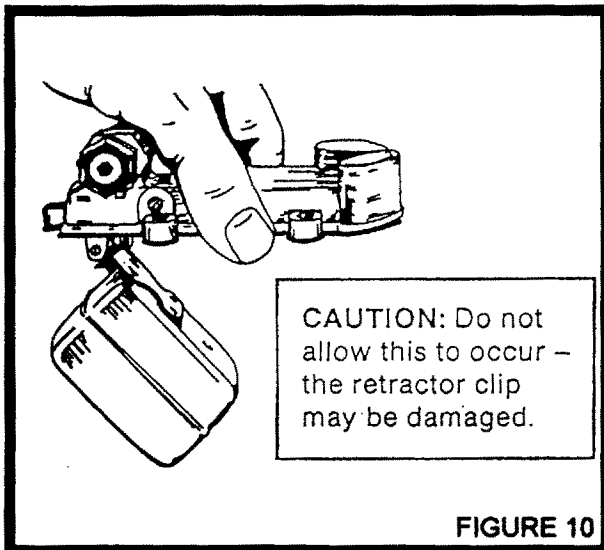
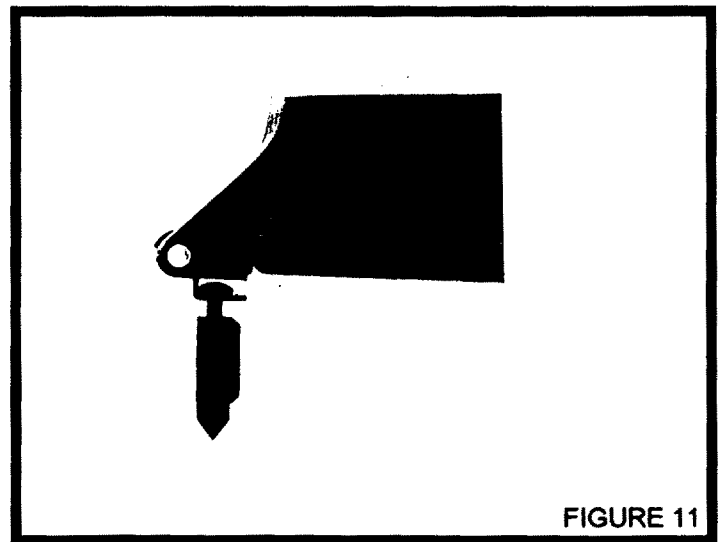

FIGURE 10
FIGURE 11
- 107) Install float valve seat and gasket assembly into cover (48) using tool M-103 to secure the seat. When using brass float, install seat with both gasket/washers. When using the new Precision float, install seat with only the thinner gasket/washer (P/N 78-A40).
- 108) CAUTION: Exercise care if using brass float, during the following operations to prevent damage to the float (30) and the float valve retractor clip (29). See Figure 10.
- 109) Place the gasket (19) on the cover (48).
- 110) Place the float valve into the forked retractor clip on the float as shown in Figure 11. When using the brass float, place the float valve retractor clip (29) on the float valve as illustrated in Figure 12. Place the float valve and retractor clip on the float as illustrated in Figure 13.